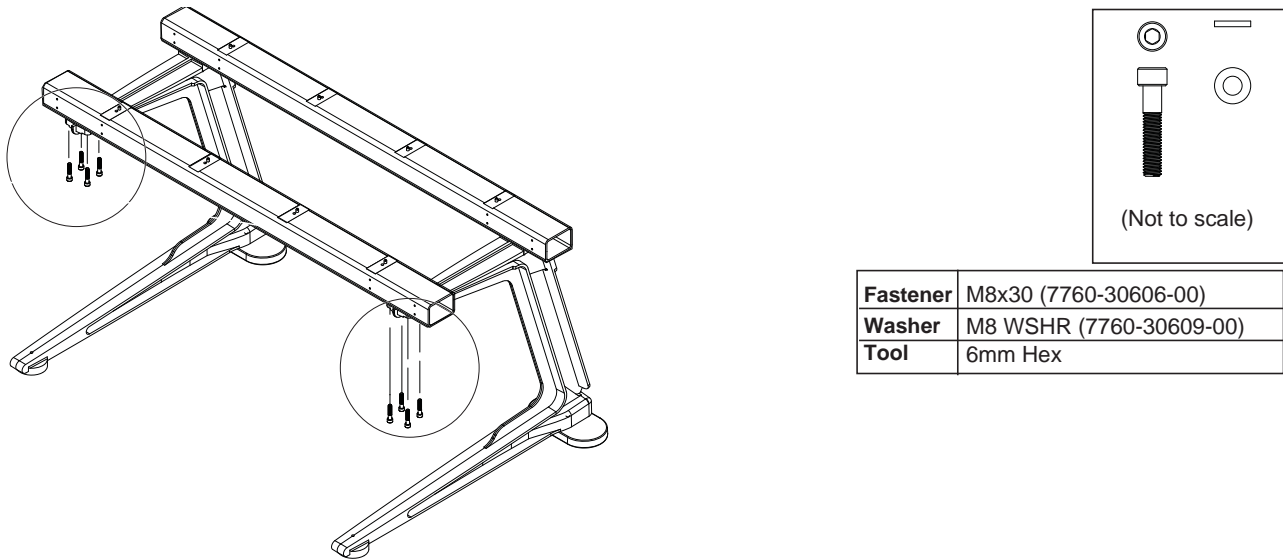

Figure 22. Removing the front Beam from the Legs
- 1 Remove the four fasteners and washers per mount that secure the front Beam to the Legs, then lift the Beam off of the Legs (see Figure 22). If your Leg Frame is an original (early 2014) unit, remove the fasteners from the mounting plate.